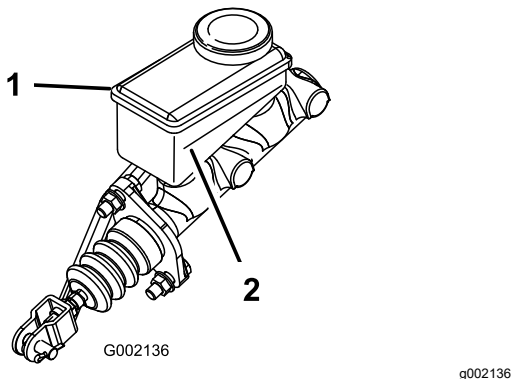

**Figure 65**
4. Raise the hood to access to the master brake cylinder and reservoir (Figure 65).
- A. Clean the area around the reservoir cap and remove the cap (Figure 65).
- C. Install the reservoir cap (Figure 65).